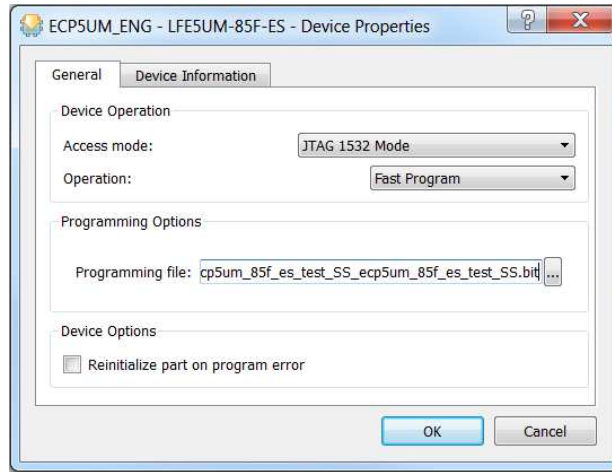

Figure 5.6. Programming Options
- Select the appropriate programming file by clicking the **Browse** button  in the **Programming Options** section as shown in Figure 5.6.